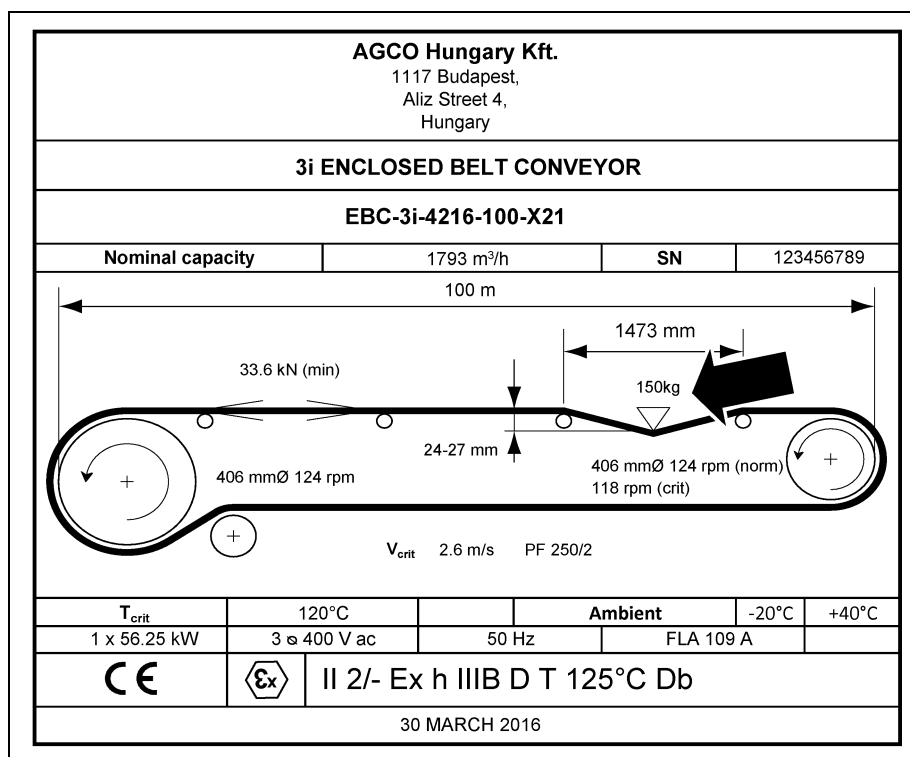

Figure 4W Rating Plate Showing Required Test Weight
8. The required test weight is also shown on the rating plate. (See Figure 4W.)